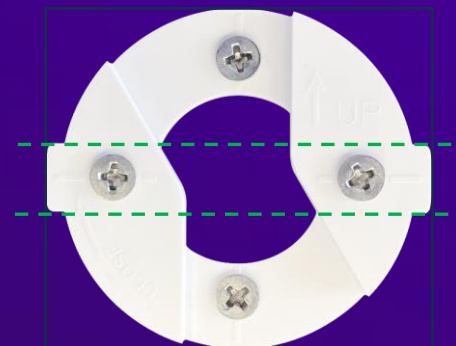

Figure 1: The mounting bracket secured to a wall. The dashed lines illustrate how the “wings” on either side are horizontally level.
1. Locate the mounting kit (A) included in the box.
2. Determine the best way to mount the bracket to your chosen surface. In this example, we are mounting to a wooden board, so screws (C) are used to install the bracket permanently. For a temporary installation, substitute the screws for the two Command adhesive strips (B).
3. Mount the bracket to the wall. The “wings” of the mounting bracket should sit level across the wall as shown in Figure 1. This ensures that the sensor sits plumb.